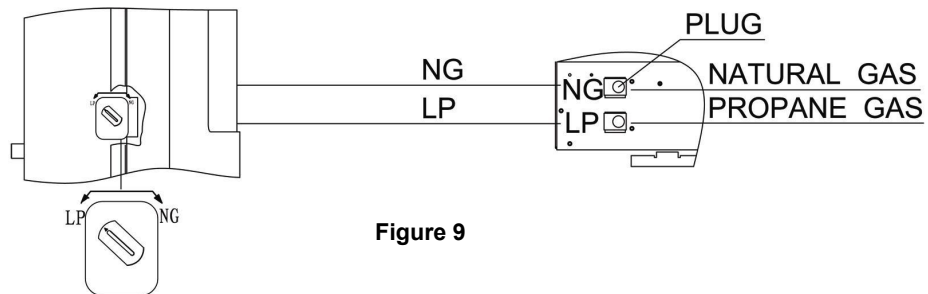

Figure 9
2. For propane gas, press in knob using a flat screw driver with a blade the thickness of a quarter and turn knob counterclockwise  until the knob locks into the LP position, see Figure 9. Selection valve must be locked in the LP position. Do not operate heater between locked positions.